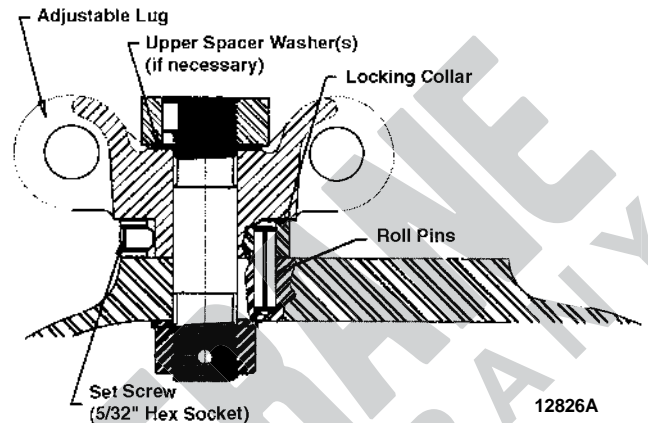

Figure 11
3. Install suspension stud assembly, suspension lug, washers and round nut. (Do not use nut that was removed from hook. **Use nut furnished with kit.**) Suspension stud assembly should have a round nut on top pinned in place. See Figure 3. Note that two (2) thin spacer washers should be installed between the upper round nut and the suspension lug. (See Figure 11.) A dab of grease on the washer will hold the washer in place until the lower nut is started. Turn round nut on top of lug with channel lock pliers while holding lower round nut inside hoist frame with a pin punch until pin holes in suspension stud and lower round nut are lined up. If the nut cannot be installed far enough to allow the holes to line up, remove the lower round nut, and remove one (1) of the **upper** spacer washers. Reassemble the lug as described above. If the holes still will not line up, remove the remaining **upper** thrust